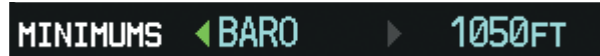

Figure 2-41 MDA/DH Setting
- 2) Turn the large **FMS** Knob to highlight the 'Minimums' field (Figure 2-41).